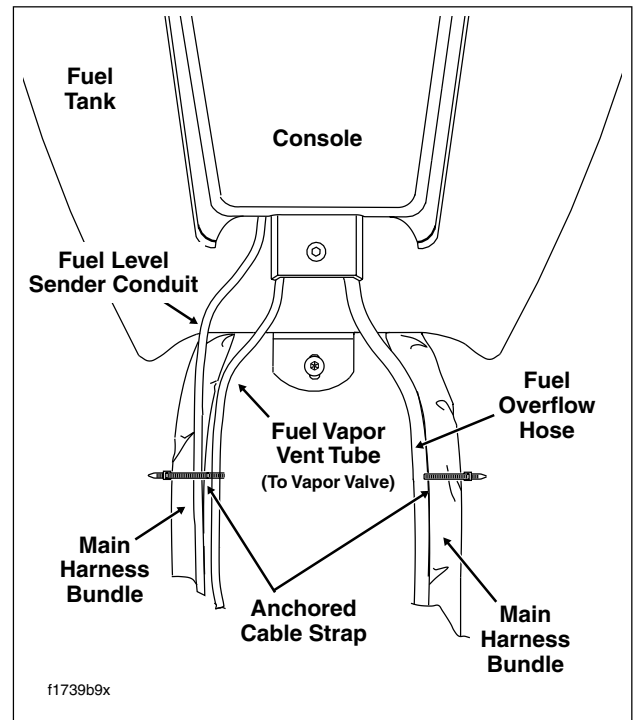

Figure 4-19. Console Cable/Hose Routing -FLHT/C, FLTR (Top View)
- Remove filler cap. Position console on canopy. Route cables from beneath console as shown in Figure 4-19. Be sure that hoses and wires are not pinched by the console during installation. Reinstall filler cap.
Route fuel overflow hose inboard of wire bundles on right side of frame, but do not capture in cable straps. See Figure 4-19.
6. Remove filler cap. Position console on canopy. Route cables from beneath console as shown in Figure 4-19. Be sure that hoses and wires are not pinched by the console during installation. Reinstall filler cap.